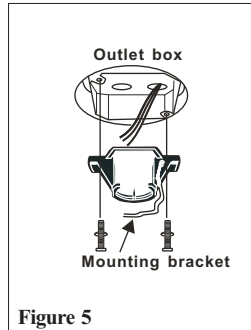

Figure 5
1. Secure the mounting bracket to the ceiling outlet box with the screws and washers provided with your outlet box. (Figure 5)